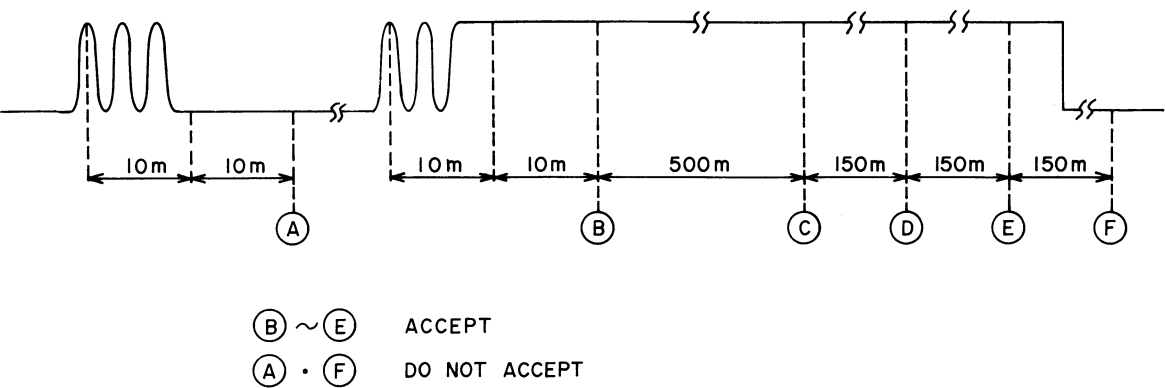

Fig. 5-11 Key Input Detection Timing Chart
- This situation is illustrated in Fig. 5-11.